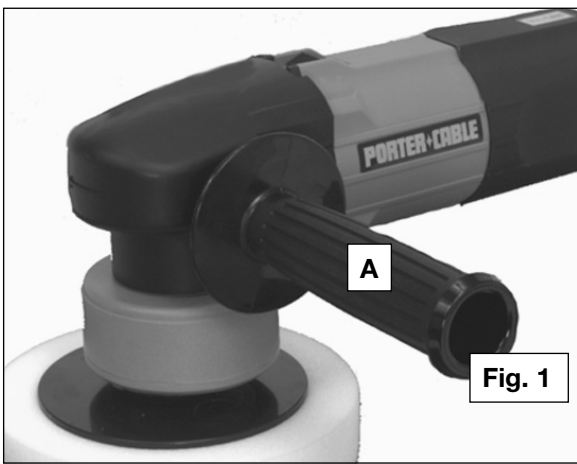

Fig. 1
An auxiliary handle (A) Fig. 1 is furnished with the tool. You can install the auxiliary handle on either side of the front housing to facilitate either right-handed or left-handed operation.